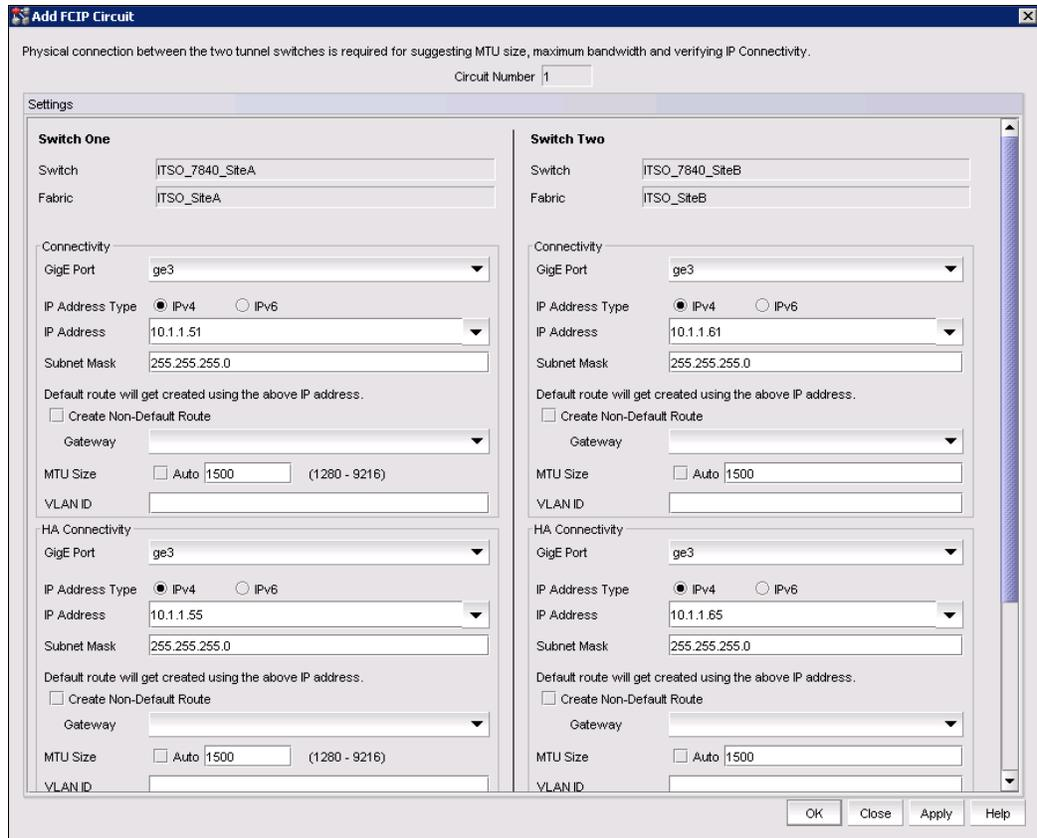

Figure 4-11 Add the second circuit
9. Click **Add** to add more FCIP circuits for this FCIP tunnel. Here we create the second one (Figure 4-11).